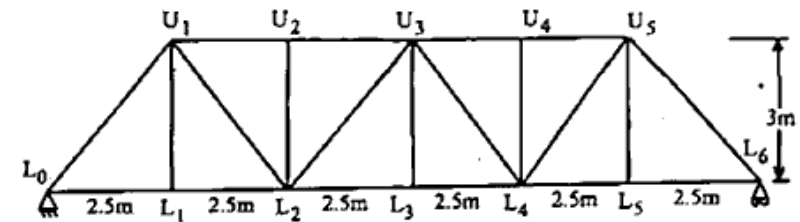

Figure 7 (आकृति 7)
8. Construct the influence line for a diagonal member  $U_5L_4$  of a Warren truss with verticals shown in figure 7. 14